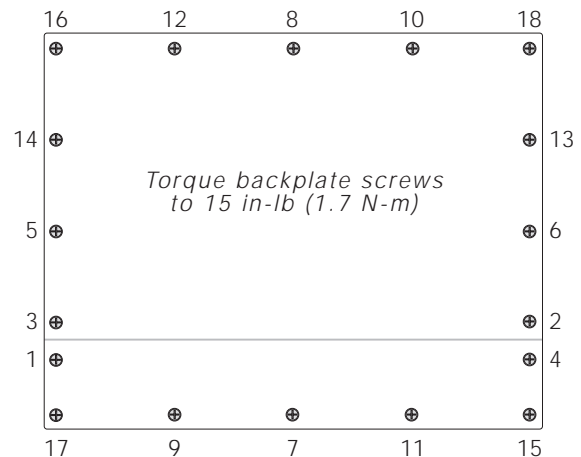

Figure 2-3. 920i Enclosure Backplate
9. For indicator models that include a backplate, position the backplate over the enclosure and reinstall the backplate screws. For the 920i desktop and universal models, use the torque pattern shown in Figure 2-3 to prevent distorting the backplate gasket. Torque screws to 15 in-lb (1.7 N-m).